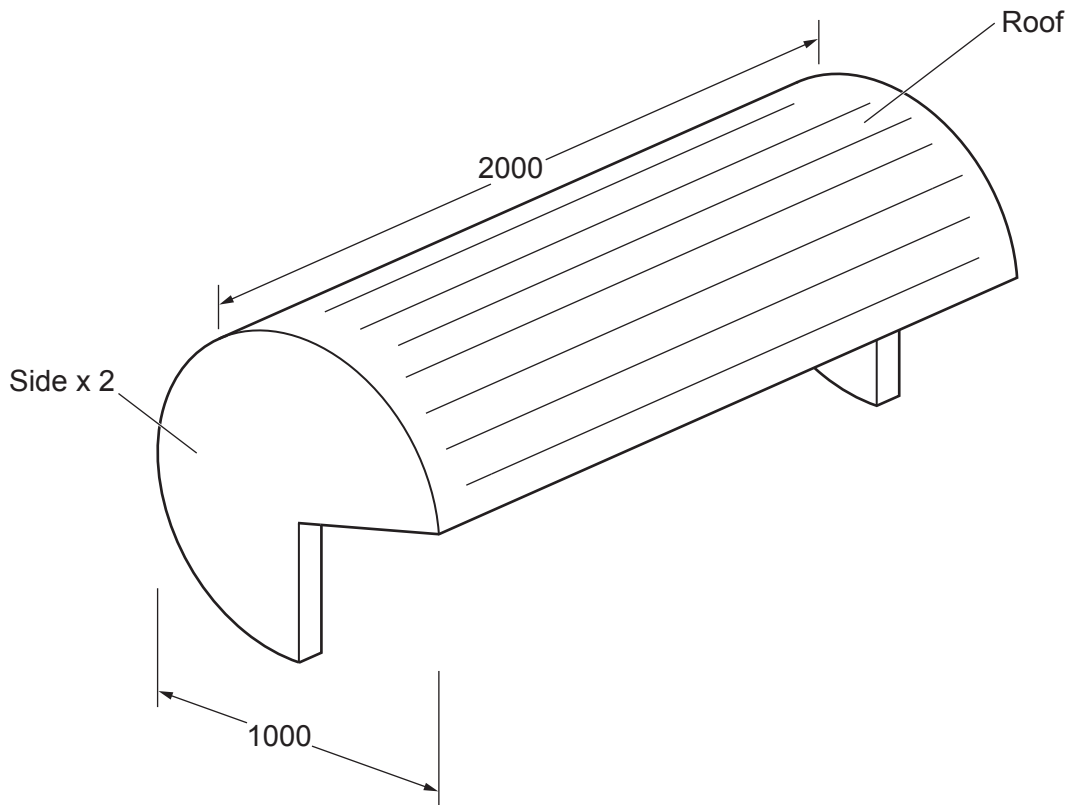

Fig. 4.1
- 4 Fig. 4.1 shows a prototype cycle storage shed that is to be used at a school. The roof is manufactured from recycled plastic and the sides from reclaimed timber.